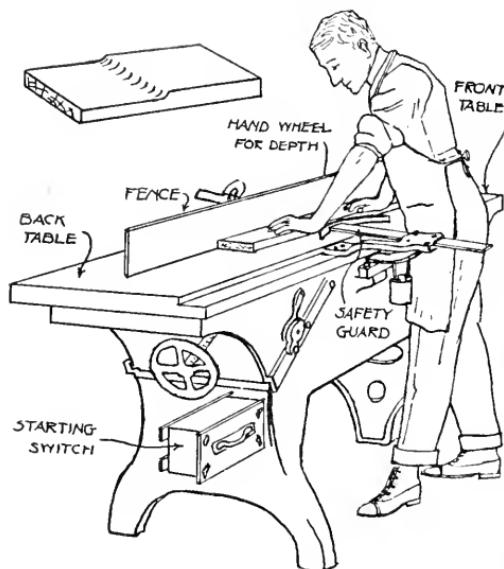
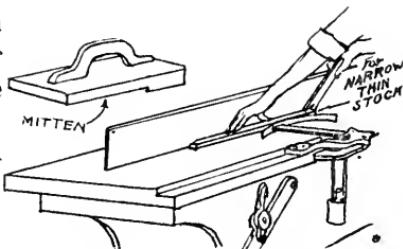
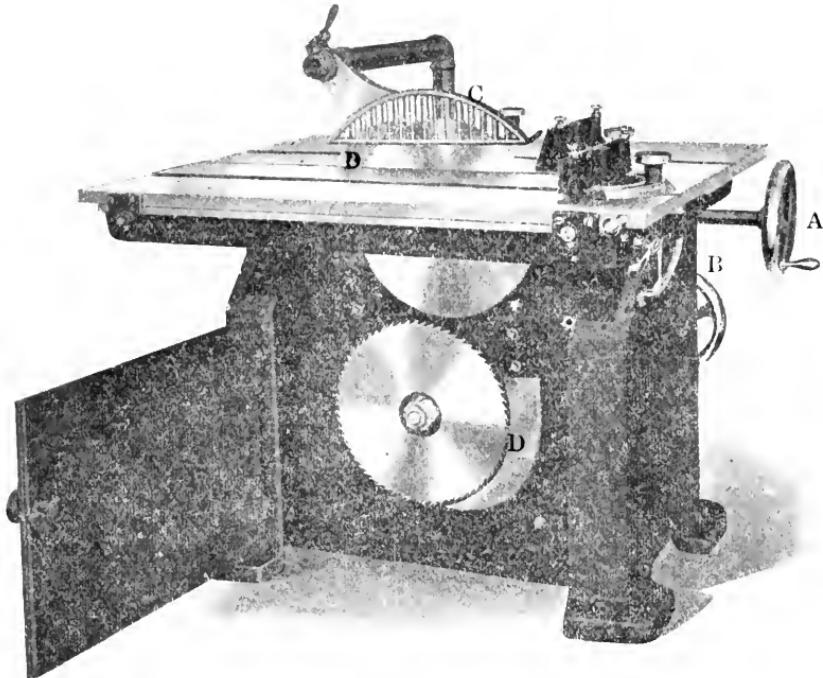

FIG. 6—WORKING FACE
FIG. 7 USING A PUSH STICK FOR NARROW STOCK.
FIG. 12—DOUBLE ARBOR SAW WITH GUARD and SPLITTERS
of a surface and to plane an edge at right angles to that face. It is also used for planing glue joints and dadoing. Fig. 6, shows a jointer with parts labeled.
8. Tables-- The tables, Figure 6, are mounted in such a way that they can be drawn from the cutter head on a level, independently of the device for raising and lowering them. The best tables are provided with steel lips located close to the cylinder head. When the lips are of the same material as the other parts of the table they are not as serviceable. The front table, or the one at which the operator stands when he begins to run a piece of wood over the jointer, is the one that determines the size of the cut to be made on a piece of stock. The most desirable type is the one that has a hand wheel, Figure 6, on the back side of the table and permits the operator to stand in front of the machine while adjusting the depth of the cut. With the old type it is necessary to get down and reach below the machine to make this adjustment.
9. Operation.-- Assume the position in Figure 6 and be careful at all times that you do not slip, which may result in a bad accident to hands or fingers. A piece of rubber matting nailed to the floor is a great aid to easier and safer operation. Cleats are sometimes nailed to the floor when matting is not available, but are an inconvenience when sweeping.
10. Working Face-- To plane a working face assume the position shown in Fig. 6. The piece to be planed is placed on the front table after being certain that the gauge is set for the proper thickness and pushed slowly over the revolving cylinder, being careful at all
stick, which is also shown in Fig. 7. Be sure at all times to use the safety guard. There is only one exception to this which will be noted later. Always run the stock so that the knife will cut with the grain.
11. Jointing An Edge-- Planing a working edge on the jointer is similar to squaring up a working edge at the bench. The piece is set against the fence and fed very slowly in a manner similar to that shown in making a working face Fig. 6. If the stock is wide so that the top edge comes above the fence and fed very slowly it will not be necessary to use the mitten or push stick. It is best always to feed the stock so that it will
times to keep the stock firmly on the table. This may be accomplished with both hands on the surface of the board being planed. A precaution must always be taken, especially with beginning students by using the wooden mitten shown in the top of Fig. 7. This is placed in the back end of the piece which is being shoved over the jointer. Again referring to Fig. 6, it will readily be seen how easily it is to drop the right hand down upon the revolving cylinder thus causing a very serious accident, which can be avoided by the use of the mitten and push
The Universal saw, Fig. 12, has a hand wheel "A" for revolving the two saw arbors making it possible to change very quickly from rip to cross cut saw or vice versa, and for raising or lowering the saw which determines the distances it projects above the saw table while in use. Remember that the saw should **never project farther** above the table than is absolutely necessary for the thickness of stock being cut.
The guard "C" and splitter "D" also shown in Fig. 12 are necessary as "Safety Devices." The guard should be used at all times when possible. The splitter is a farther safeguard because it keeps the stock from pinching after it has passed the saw.
the micrometer adjustment. Notice the locating holes in the top of the table for adjusting the fence to cut very wide stock. (3) See that the clamp on the tilting hand wheel, "B" in Fig. 12 is set, and if you are using the Double Arbor Saw be sure that the clamp under the table is set so that the top will not roll. (4) Last but not least see that the guard and splitter are in place. You are now ready to shove the stock over the saw. When the end of the board starts over the saw make sure that the edge is against the fence and you will have no difficulty in ripping parallel with the edge and getting the exact width of stock for which the fence has been set. As you push the board over the saw, stand either to the right or to the left of it. Should the board twist in any way and become caught in the saw you could not stop it or get out of the way in time to prevent a serious accident. When the stock is narrow, or it becomes necessary for your hands to come near the saw use a push stick as shown in Fig. 7, while operating the jointer.